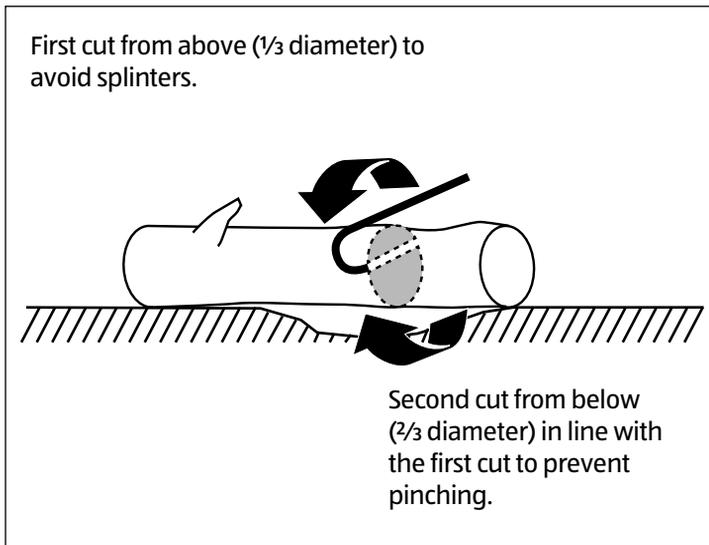

Fig. 6
- When the log is supported on both ends, first cut $\frac{1}{3}$ of the diameter of the log from the top side, then $\frac{2}{3}$ from the bottom side in line with the overbuck (see **Fig. 6**).